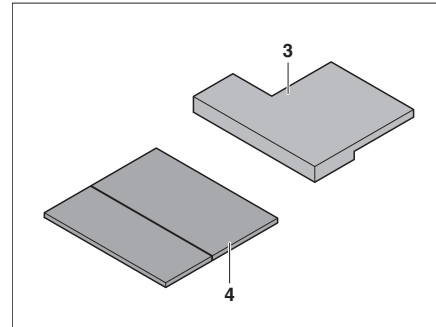

Fig. 184 Additional cushion
- Lay the guest bed foundation (Fig. 184,4) on the table. Lay the front edge of the guest bed foundation directly against the driver's seat.